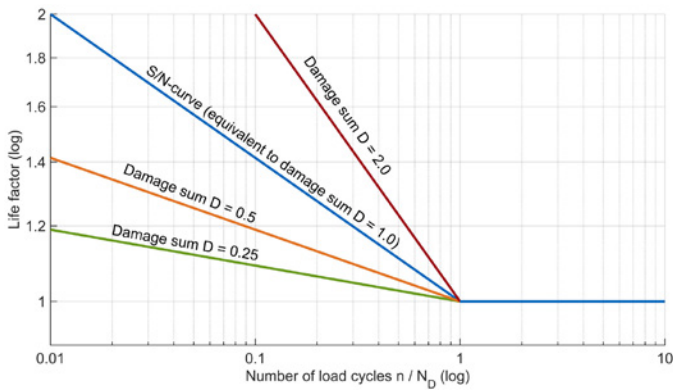

Figure 5—Different damage levels according to Subramanyan in the S/N diagram.
Figure 5 shows the same damage sums and their locations as
- As presented in Figure 5, all damage levels originate at the knee point of the S/N curve and become steeper as damage increases. Due to this fact, it is not possible to have a number of load cycles n larger than the number of load cycles at the knee point of the S/N curve N_D . This would cause the damage sum to become negative and is therefore illogical. This issue can be retraced when looking at Equation 4. Especially when the scattering of the service life of input data is quite high, this can cause an issue.